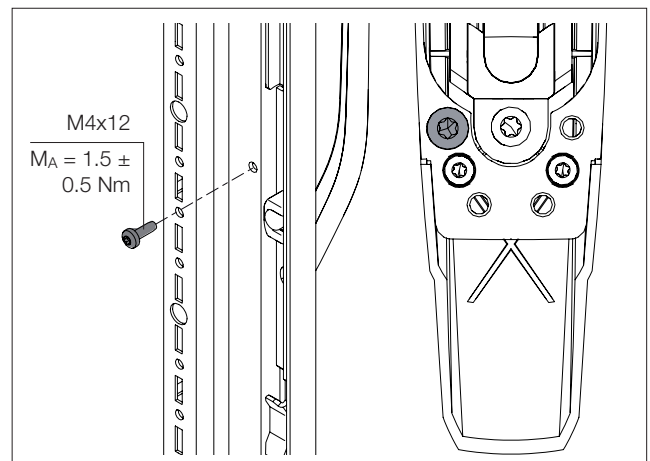
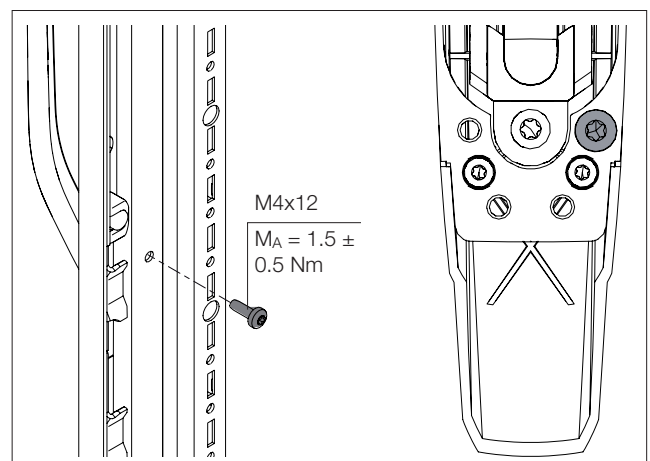

Fig. 9: Screw-fastening the comfort handle (hinge on right)
Fig. 10: Screw-fastening the comfort handle (hinge on left)
- Screw the comfort handle to the sheet steel door, depending on the position of the hinge (fig. 9 or fig. 10, $M_A = 1.5 \pm 1 \text{ Nm}$).